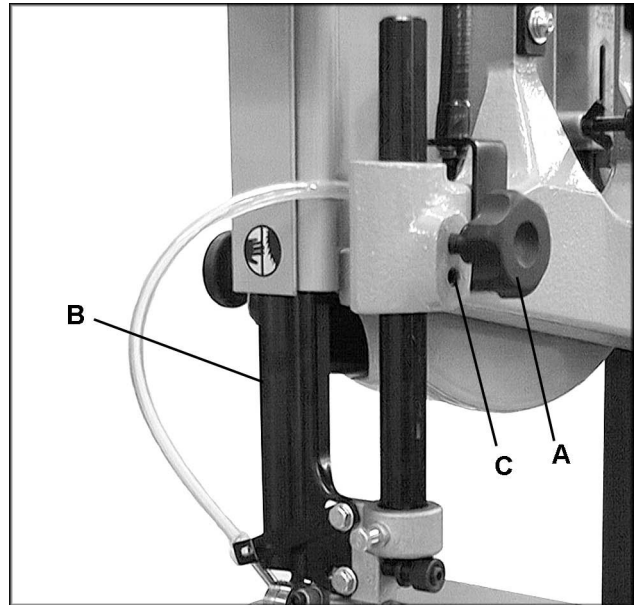

Fig. 26
2. Loosen lock knob (A, Fig. 26) and raise or lower upper blade guide assembly (B, Fig. 26) to just above the material being cut.
4. The upper blade guide is spring loaded. To adjust the tension on the spring, remove knob (A, Fig. 26), tighten or loosen set screw (C, Fig. 26) until desired tension is reached, then replace knob.